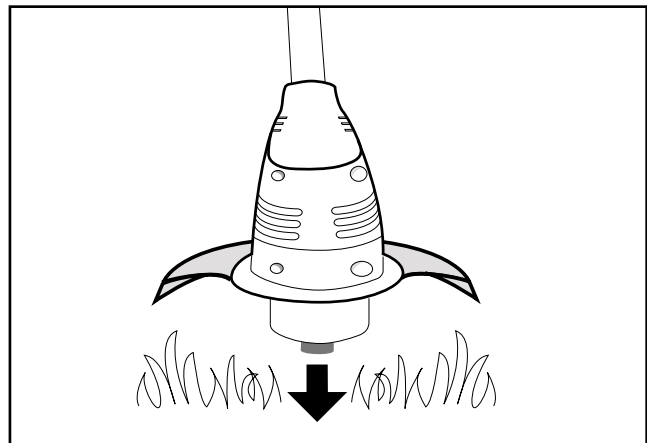

Fig. 13
1. Your trimmer is equipped with a Bump Head, which allows the operator to release more trimming line without stopping the motor. As the line becomes frayed or worn, additional line can be released by lightly tapping the Bump Head on the ground (Fig. 13) while operating the trimmer at **high speed**.